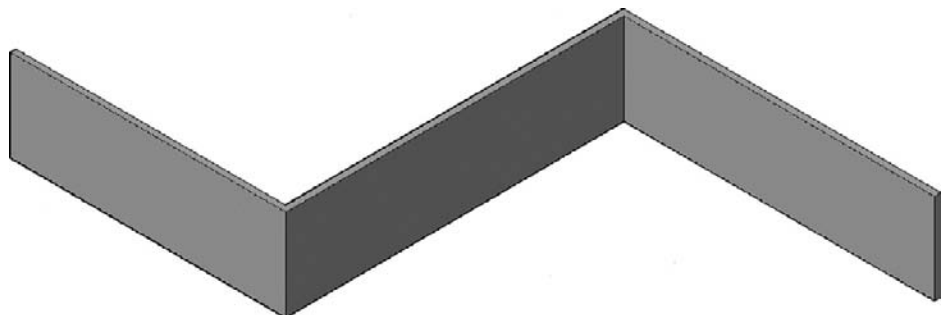

FIGURE 26.1
Step 3. A connected polysolid is drawn every time you click, so do several clicks and press Enter when done, then shade and color the polysolid. You should have something similar to what is shown in Figure 26.1 on your screen.